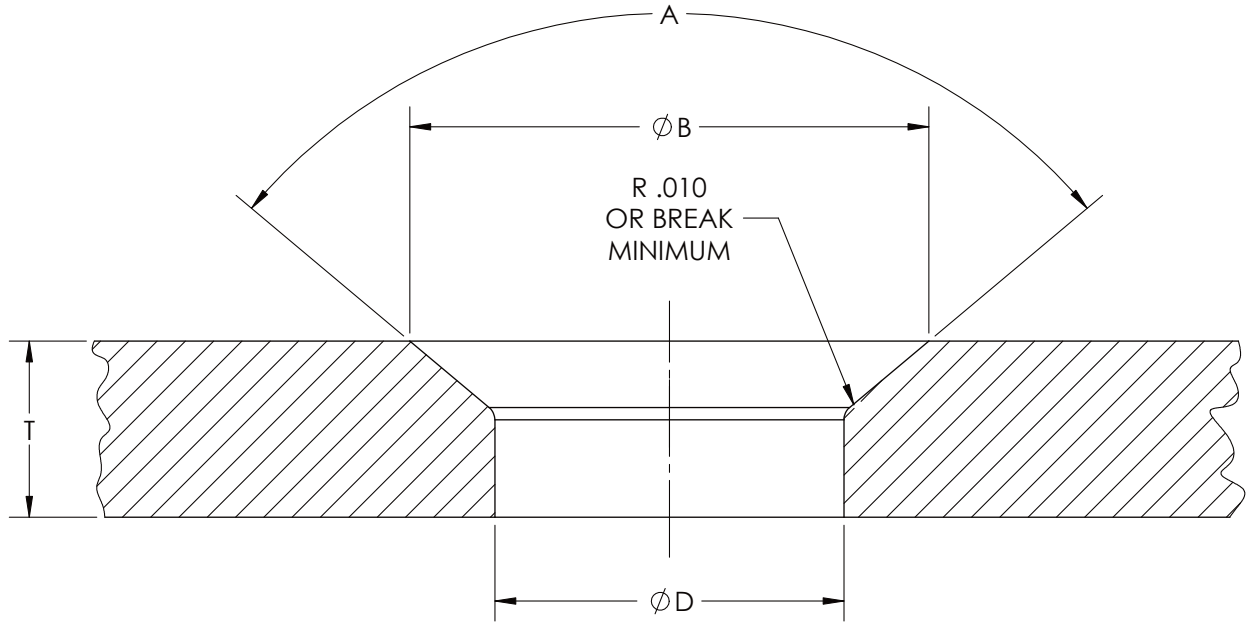
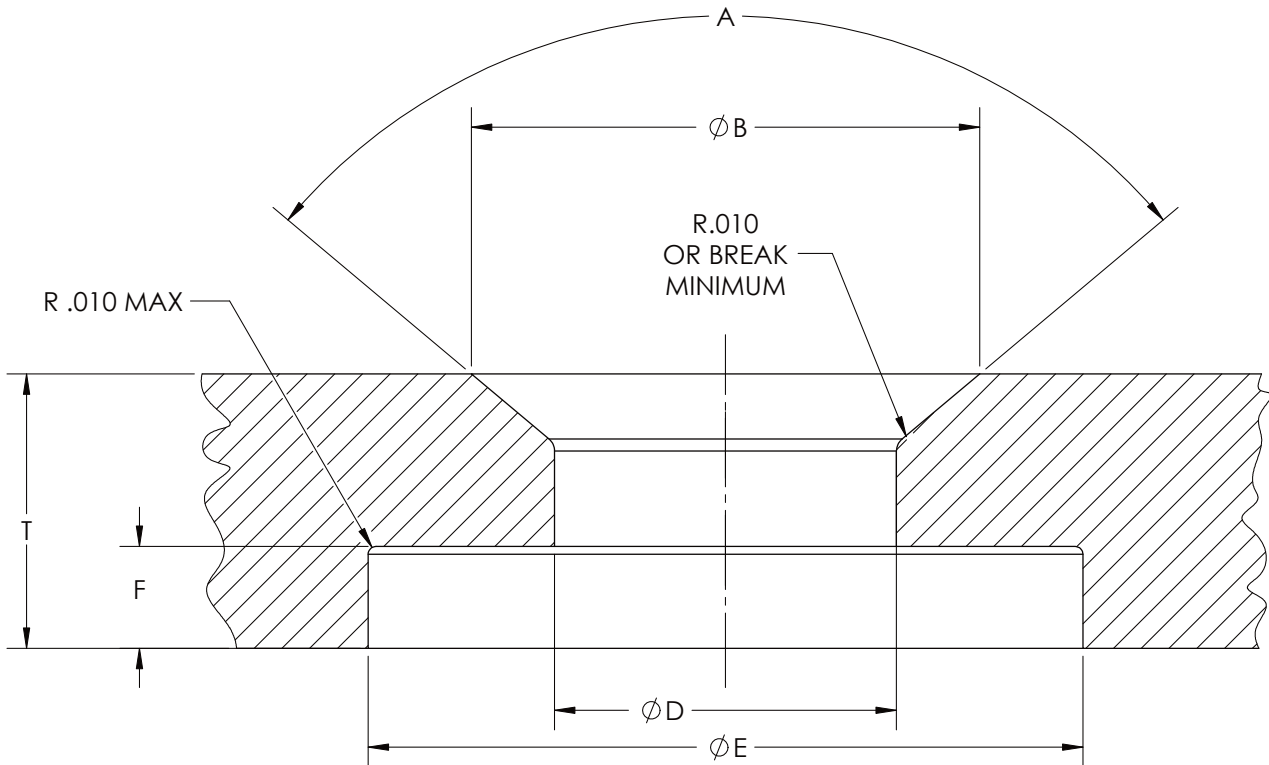
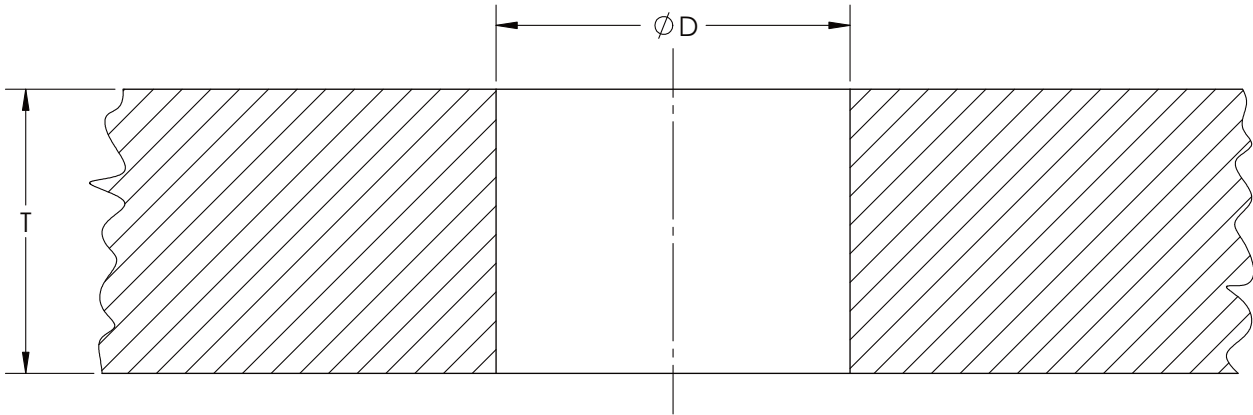

Figure 1: Panel Preparation for Flush Head Studs
Figure 2: Panel Preparation for Flush Head Studs with Counterbore
Figure 3: Panel Preparation for Protruding Head Studs
For flush head studs, prepare panel in accordance with Figure 1 or 2 and the dimensions shown in the table below. For protruding head studs, prepare panel in accordance with Figure 3 or 4 and the dimensions shown in the table below. The counterbore option (Figures 2 and 4) may be used if the offset necessary for the retainer between the panel and substructure is not suitable for the application. Counterbores should not be used in panels where the thickness (T) is less than the minimum T shown in the table below.